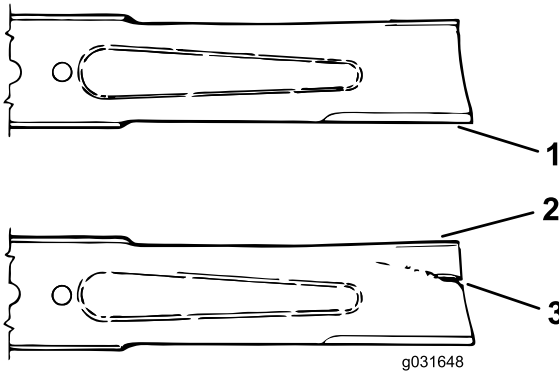

Figure 73
3. Examine the cutting ends of the blade carefully, especially where the flat and curved parts of the blade meet (Figure 73).